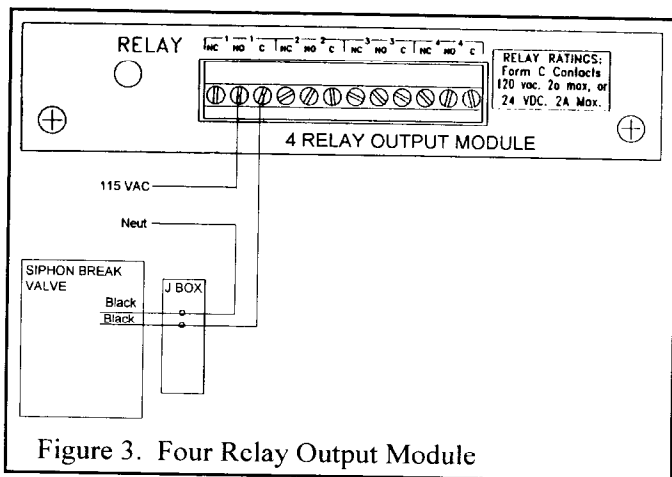
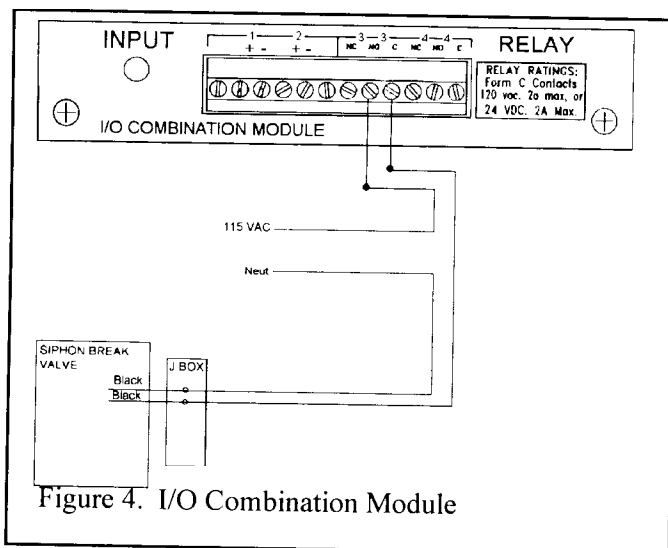

Figure 3. Four Relay Output Module
Figure 4. I/O Combination Module
2. Connect the wires to the 4-Relay Output Module or the Two Input/Two Relay Output Interface Module, as needed (see Figure 3 or Figure 4, as applicable). The modules in the TLS-350 come with connectors in place. **Do not remove the connector from the module during wiring.** Terminal identifications appear only on the module bracket. Removing the connector from the module increases the risk of wiring errors.